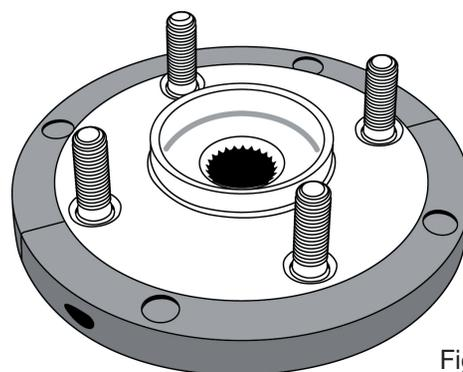

Fig 2
- Initially offer up the insertion Adaptor (I) making sure to does not interfere with the ABS sensor
- Refer to Fig 2: Assemble insertion clamshells (A) onto new bearing/flange and secure with set screws (D) supplied.
- Assemble the four force pins (E) to the force plate (B). The rubber O-ring on the force pin will secure it in the force plate socket.
- To withdraw the bearing/flange, hold the force nut (F) with a 30mm spanner while turning the force screw with a 22mm socket on a breaker-bar or long ratchet handle. (Do not use air tools.)